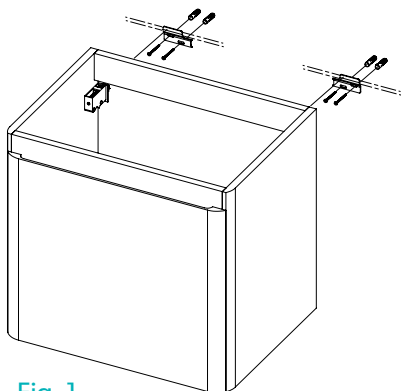

Fig. 1
2. Using a spirit level, mark a horizontal line below the pencil mark, taking into account the location of the furniture hangers. Place brackets on the pencil line paying attention to the distance between the furniture hangers. Carefully mark the position of the holes using a soft pencil. (Fig. 1).
5. Fix the brackets to the wall using the screws provided (Fig. 1).